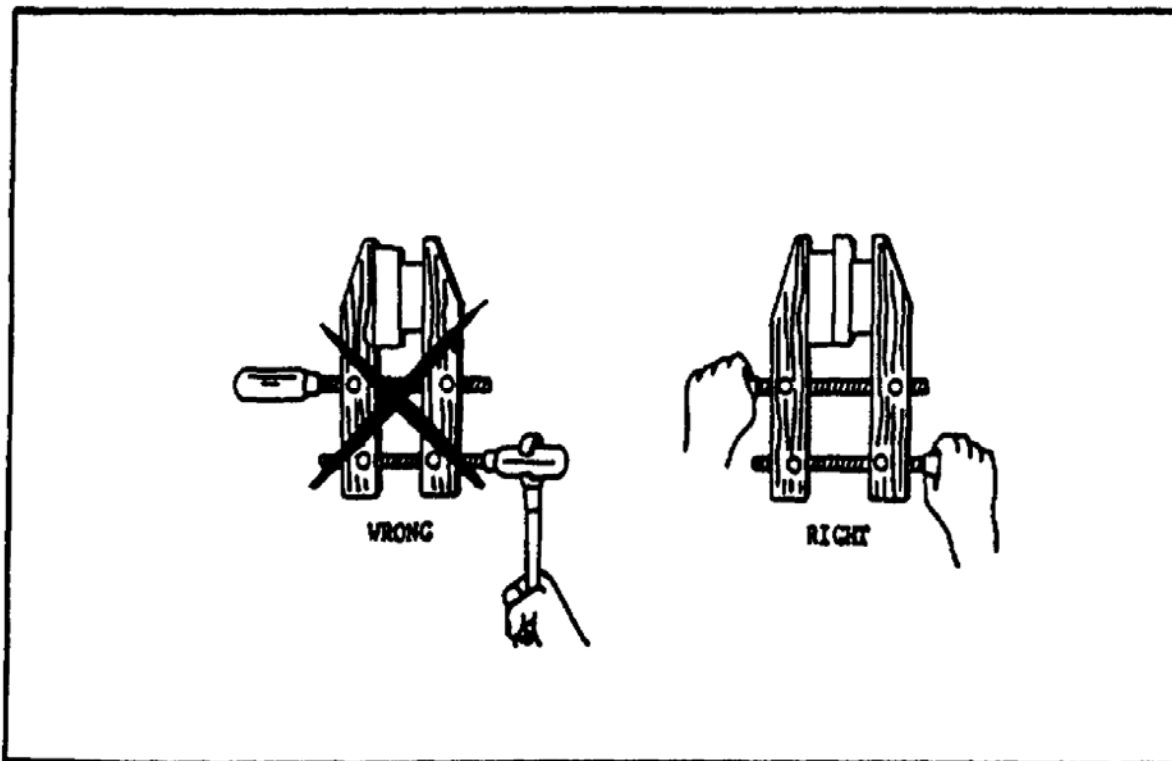

FIGURE 45. USING HAND SCREW CLAMPS - HAND TIGHTENED.
(4) Never use the hand screw clamp on material other than wood. Other materials may damage the wooden jaws.
(5) A C-clamp may be used on any kind of material. When holding glass or work with a high polish or paint finish, provide protection by using brass shims or wooden blocks on each side of the work.
(6) Clamps should be screwed up tight, but not so tight that the pressure will spring the clamp.
(7) Use hand pressure to tighten clamps; never use wrenches or bars (figure 45).